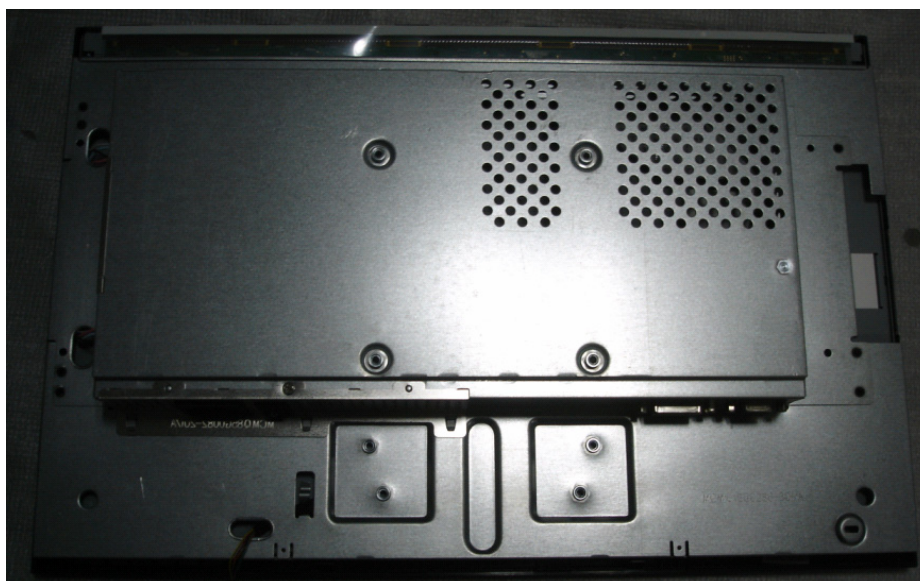

Fig 2
2. Remove the back cover and bezel. (Fig 2)